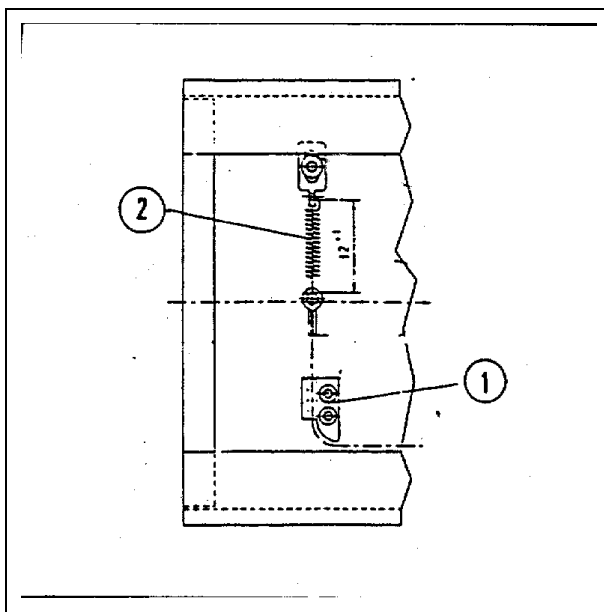

Fig. 3
- Loosen the screws (Fig. 3/1) of the rope guide.
- Also unhook the spring (Fig. 3/ 2) and secure it against getting lost.